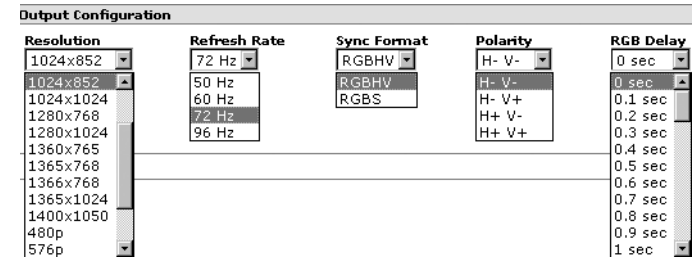

Figure 5-6 — Output Configuration drop boxes
1. Click the desired field. A drop down scroll box appears (figure 5-6).